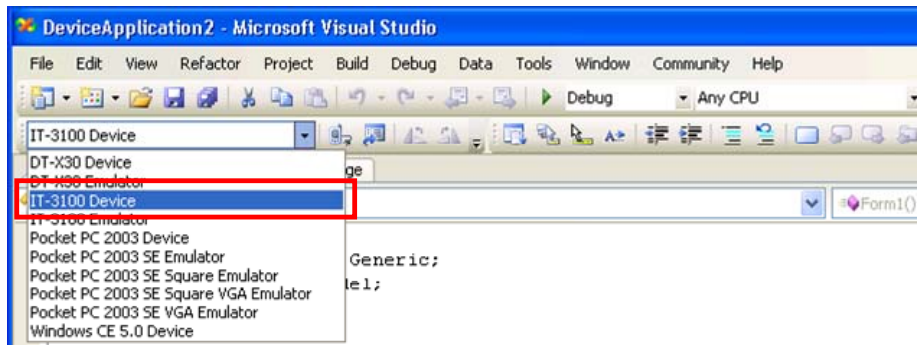

Figure 6.2
4. Choose **IT-3100 Device** in the pull-down menu box in Figure 6.2.